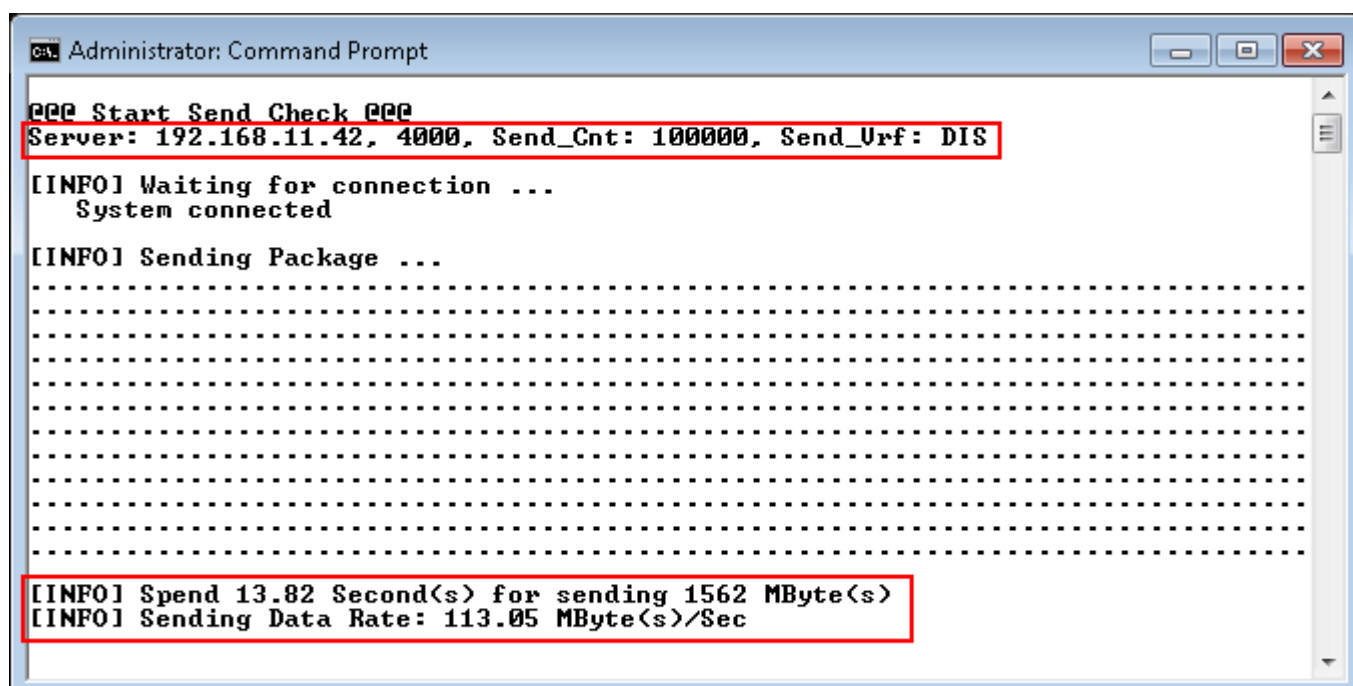

Figure 4-10 Receiving Demo on dummy data mode
- Test application displays “...” during sending the data. Time usage and test performance are displayed as a test result after finishing transferring all data, as shown in Figure 4-10.